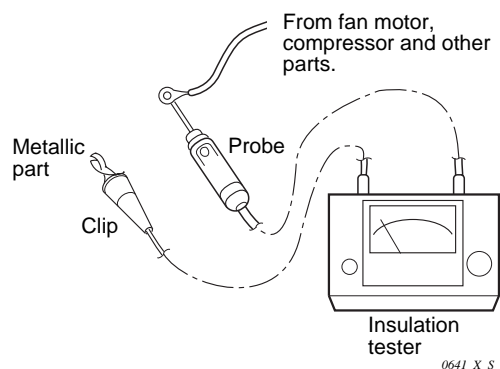

Fig. IV-17
- Similarly, disconnect the lead wires from compressor, capacitor, etc. (Fig. IV-17)